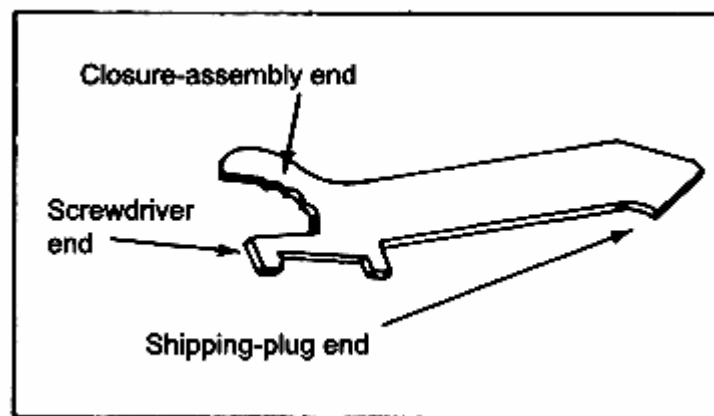

Figure 052-192-1117-1
**Install an M21 Antitank (AT) Mine**
- b. Ensure that there is no obvious damage to the M607 fuse. Remove the closure cap and, while keeping your hand clear, inspect the fuse assembly by removing the D ring (cotter pin) and stop band to ensure that the plastic collar is intact. Rotate the fuse around the U band in a 360-degree circle, inspecting the entire fuse (Figure 052-192-1117-1).